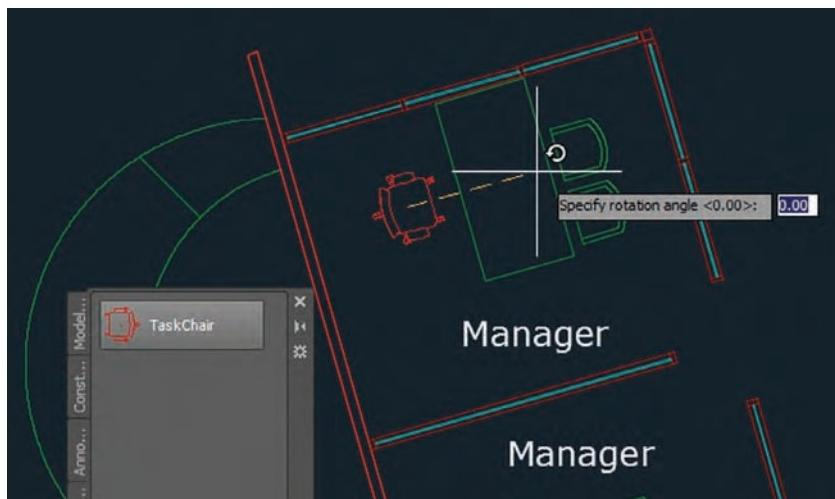

FIGURE 9.24 Inserting a chair from the tool palette
6. Click the TaskChair tool on the Furniture tool palette. Click the place where the manager's chair used to be and then specify the rotation by clicking a second time. Click OK or Cancel to close the Edit Attributes dialog box that appears. Figure 9.24 shows the result.